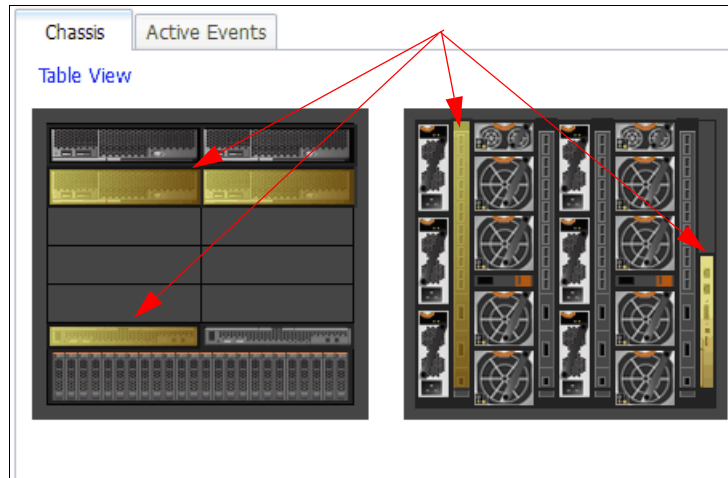

Figure 13-19 CMM chassis map - color status
2. Look for colors as an indication of a IBM Flex System V7000 canister's status, as shown in Table 13-12 and Figure 13-19 on page 549